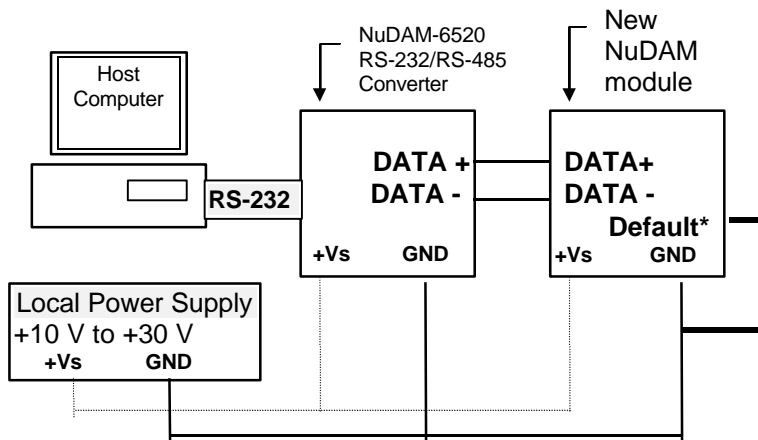

Figure 2-1 Layout for Configuring the NuDAM module
2. Connect a brand new NuDAM module with the RS-485. Set the module in *Default State* by shorting the **DEFAULT*** pin. Refer to Figure 2.1 for detailed wiring.